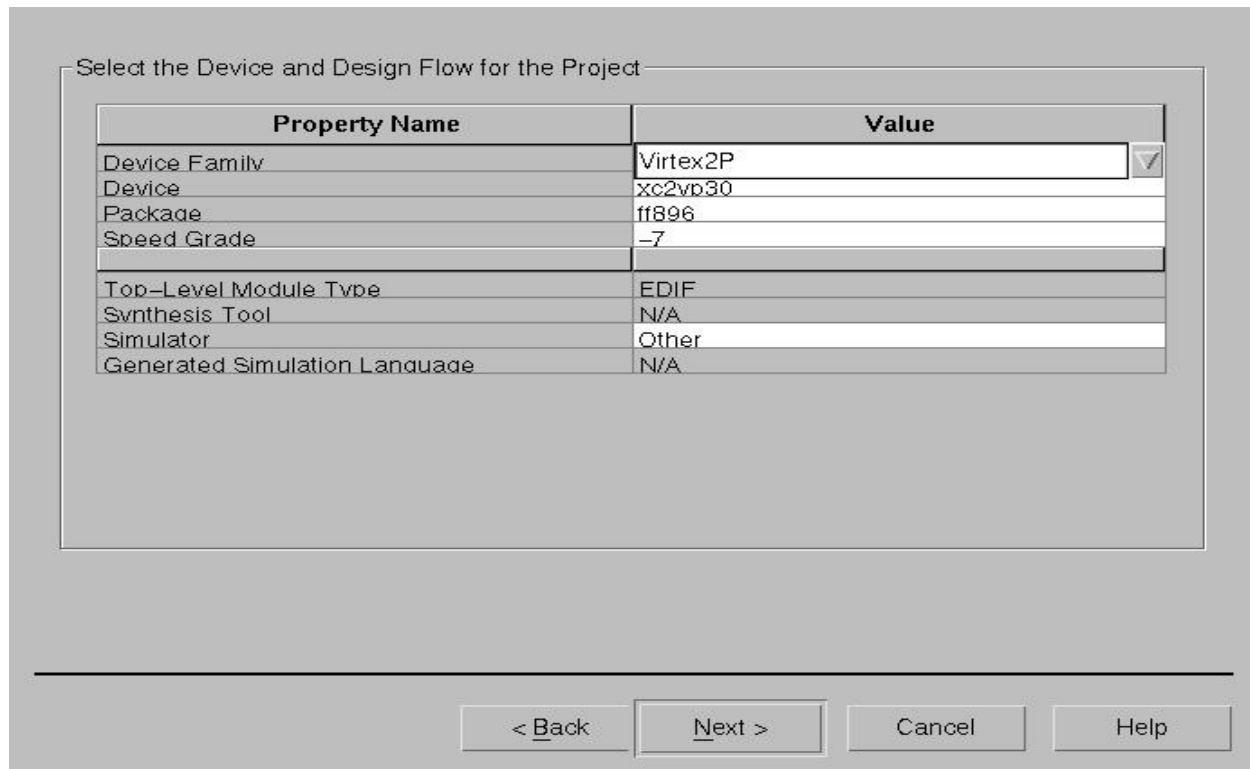

Figure 24: Specifying the Device.
(5) You must now specify which device you want to use. Refer to Figure 24 and specify the following in the form: